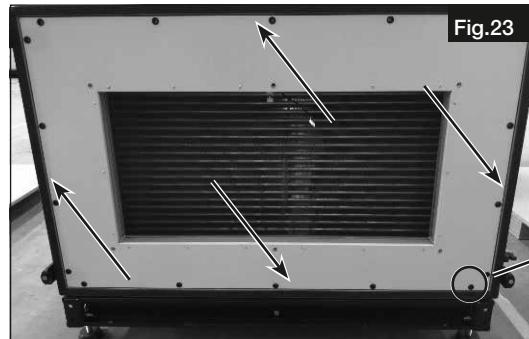

Fig.23
1. Apply sealing strips where the change-over-unit DX is joined together with the AIR1 unit or the external auxiliary heater (see Fig.23).